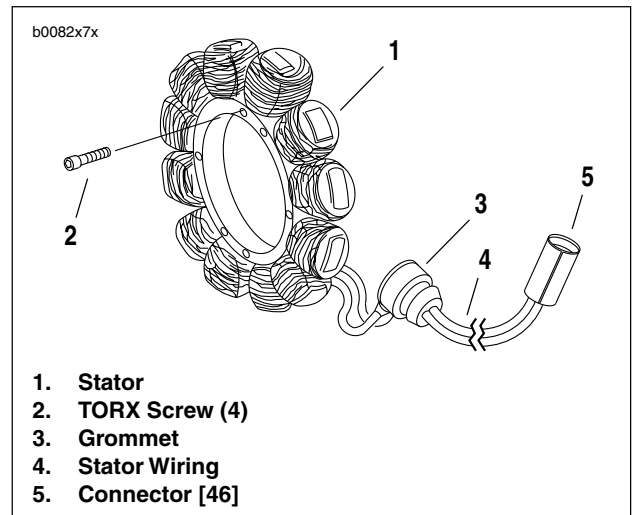

Figure 7-24. Stator Assembly
1. See Figure 7-24. Disconnect stator wiring (4) from voltage regulator wiring at connector (5) [46] near the oil pump.
3. Withdraw stator wiring (4) from behind the gearcase cover.
4. Remove and discard the four TORX screws (2) which secure stator (1) to left crankcase half.
1. See Figure 7-24. Feed stator wiring (4) with attached grommet (3) into open grommet hole in left crankcase half.